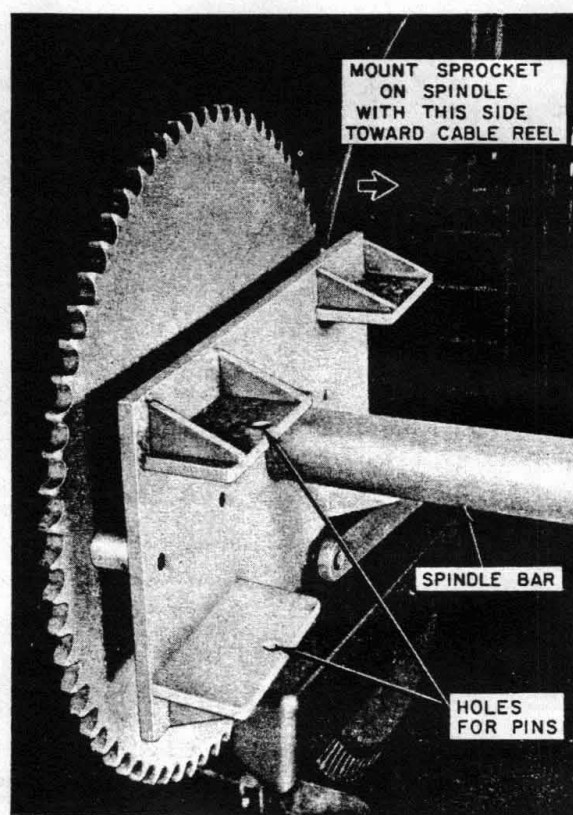
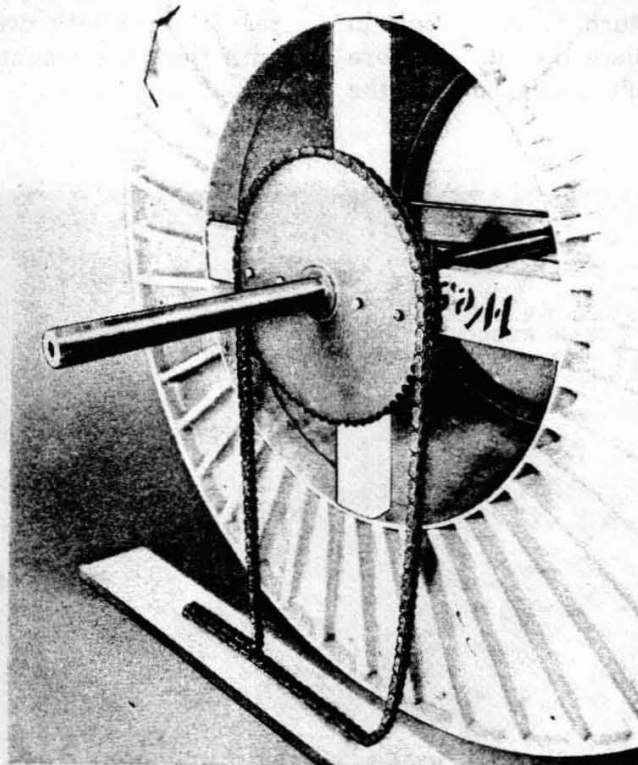

Fig. 11—Reel Drive (Sprocket)
Fig. 12—Chain in Place on Sprocket
6.01 Position an empty reel at the rear of the trailer. Place the spindle through the center holes in the reel crossarms. Place the sprocket (Fig. 11) on the spindle bar so the reel crossarm will engage the sprocket. Lock the sprocket to the reel crossarm with two connecting pins. Place the chain on the sprocket to engage the sprocket teeth in the chain links as shown in Fig. 12. Load the reel on the trailer.